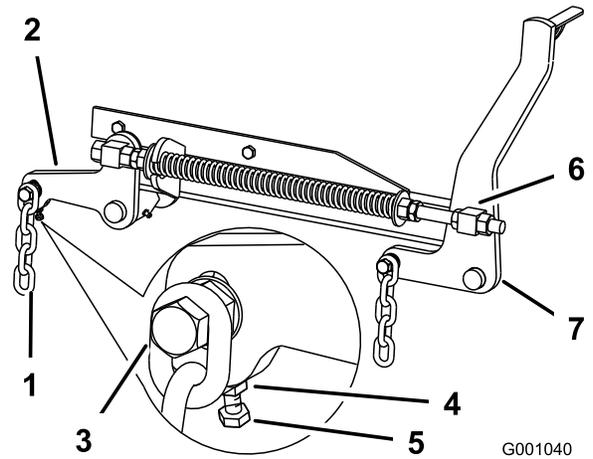

Figure 105
7. If the measurements at positions **B** or **C** are not correct, loosen the bolt attaching the rear chain to the rear-support arm (Figure 105).
8. Loosen the jam nut under the rear-support arm and adjust the adjustment bolt to get a measurement of 80 to 83 mm (3-1/8 to 3-1/4 inches); refer to Figure 105.
7. Loosen the front swivel jam nuts, at the front of the right and left swivels, approximately 13 mm (1/2 inch) (Figure 105).
8. Adjust the lift nuts on both the left and the right side of the machine to achieve 6 to 10 mm (1/4 to 3/8 inch) lower in front at **A** than in the rear at **B** (Figure 105).